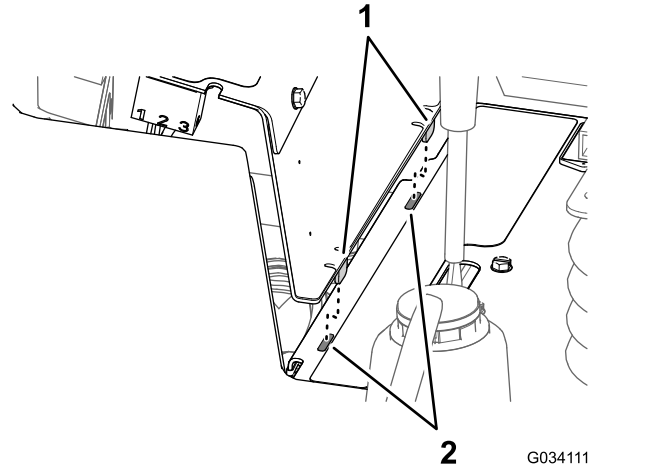

Figure 53
2. Align the 2 tabs at the bottom of the side panel with the 2 slots in the frame for the console (Figure 53).